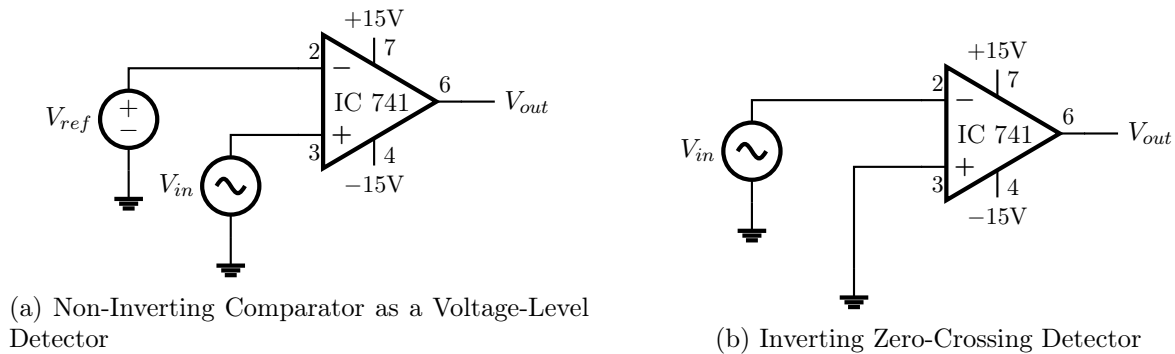
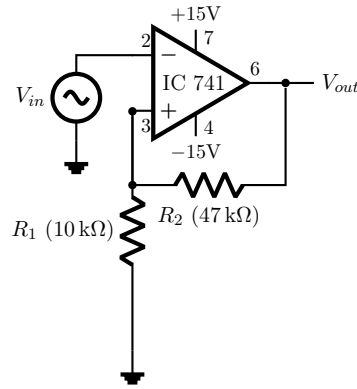

Figure 9.1: Schematics for open-loop comparator as a non-inverting voltage-level detector and an inverting zero-crossing detector
Figure 9.2: Inverting Schmitt Trigger
The circuit configurations for the Open-Loop Voltage Comparator as Voltage-Level Detector Inverting Zero-Crossing Detector are shown in Figure 9.1. Figure 9.2 shows the circuit diagram of an Inverting Schmitt Trigger.
1. Assemble the Schmitt trigger circuit shown in Figure 9.2.